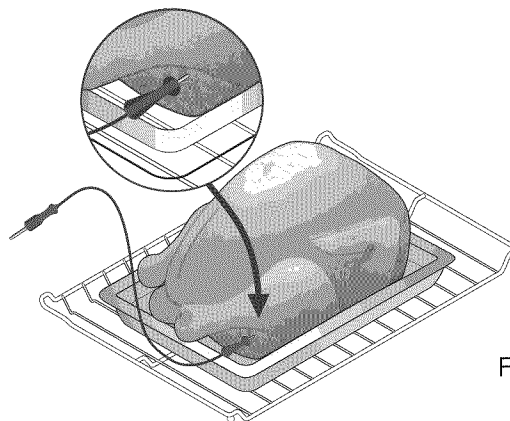

Fig. 3
- For whole poultry or turkey, insert meat probe into the thickest part of inner thigh, below the leg (See Fig. 3).